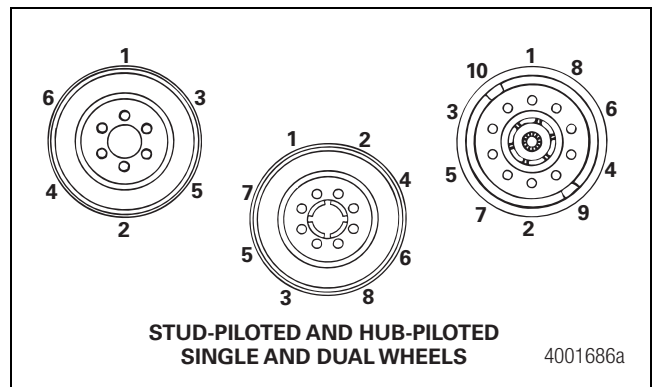

Figure 6.38
11. Follow the disc wheel manufacturer's fastener tightening sequence when you install fasteners to help ensure a higher and more uniform clamp load. Figure 6.38. Always check fasteners at the wheel manufacturer's recommended service intervals.